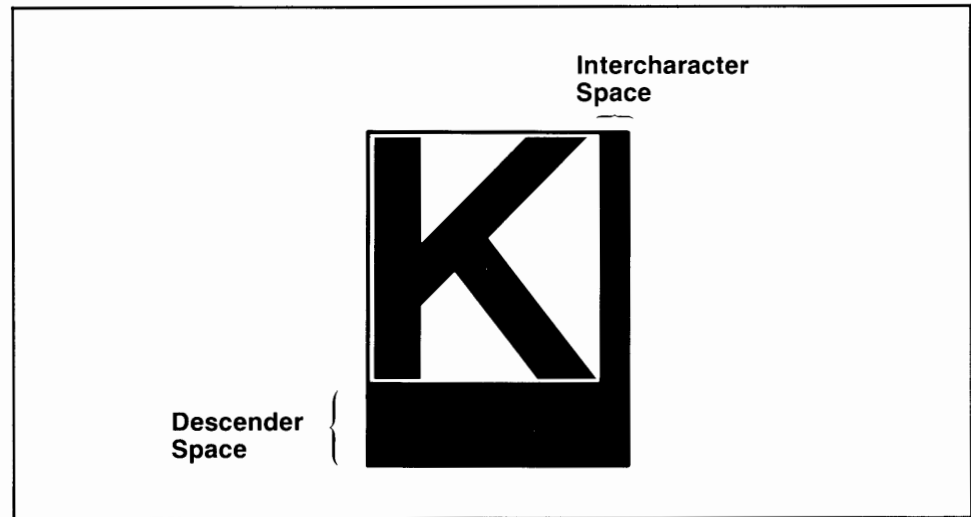

Figure 2-4. Character Grid Cell
- Graphics text characters are aligned on the left top corner of the character cell grid, as shown in Figure 2-4.